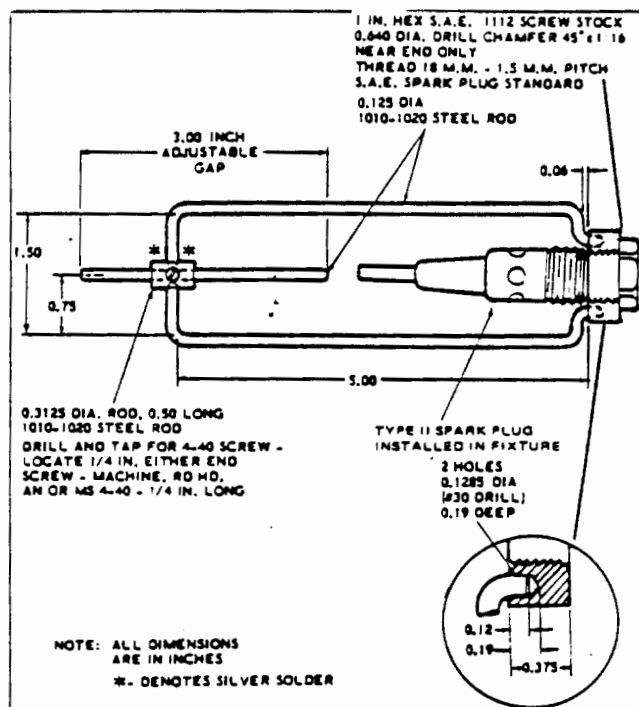

Figure 21-10. Spark Plug Fixture
4. A spark gap of 0.187 inch (plus 0, minus .030). A convenient means of arranging the correct spark gap is to install a spark plug, P/N 39D18, in a test fixture arranged to provide a ground electrode and a .187 inch spark gap. (Refer to Figure 21-10 for information on fabricating this fixture.)
Any one of several spark plugs may be used with the spark plug fixture detailed in Figure 21-10. However, the "A" dimension in that sketch must be varied with the length of spark plug electrode to provide a gap of .187 inch for all spark plugs.